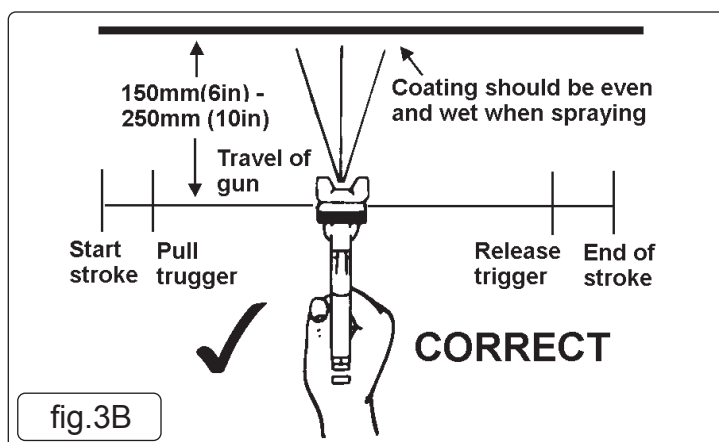

fig.3B
- 5.1. For best results, the gun should be held perpendicular to the surface being sprayed and moved parallel to it. Start the stroke before squeezing the trigger and release the trigger before finishing the stroke. This will enable accurate control of the gun and material (fig.3B).